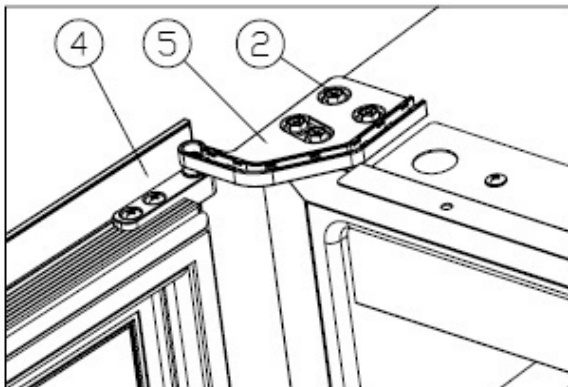

Figure 6
- ✧ Rotate the door ④ 180 degrees, place it on the lower hinge pin at the left side. Place the right lower hinge on the upper left side, insert hinge pin into the door⑤, tighten the M5\*16 screws②.[Figure 6] Reversing the door is finished.